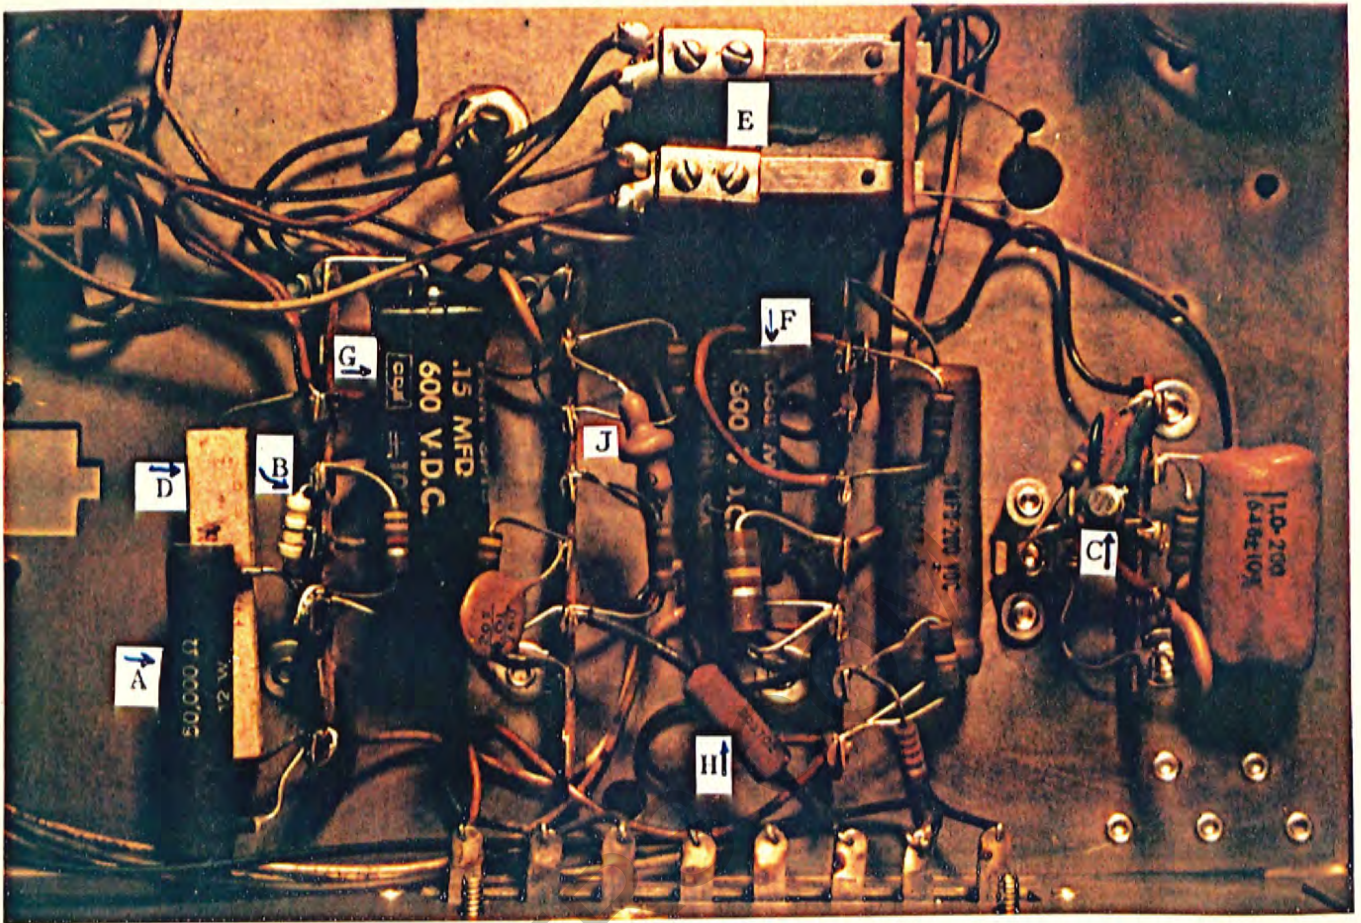

FIG 7 CLOSE-UP OF WRITE-IN/READ-OUT COMPONENTS
HARDLY CHANGES (IT MAY LOOK A LITTLE "PUFFED UP"), BUT IT'S READING WILL SHOW A RESISTANCE OF ONLY A FEW HUNDRED OHMS. THE FUSE WILL HAVE BLOWN SEVERAL TIMES DURING THE TIME IT TAKES FOR ALL THIS TO HAPPEN. SINCE THERE IS NO "OBVIOUS" CAUSE FOR THE FUSE FAILURE, PEOPLE HAVE A TENDENCY TO REPLACE IT WITH A HIGHER RATED ONE (I HAVE SEEN 15A FUSES USED). THIS ACCELERATES THE "AGEING" PROCESS OF THE ABOVE RESISTORS AND DOES NOT CURE ANYTHING; IT WILL HOWEVER RESULT IN THE SHORTING OF THE RECTIFIER DIODES AND/OR BURN-OUT OF THE MAIN POWER TRANSFORMER. THE REAL CURE IS TO REPLACE RESISTOR R3107 WITH ONE THAT IS RATED AT 56000 OHMS, 5 WATTS OR HIGHER. (THE 50000 OHM, 12 WATT RESISTOR IN FIG. 7 IS A BARELY ACCEPTABLE SUBSTITUTE). R3109 (36OHM 1/2 WATT) CAN BE REPLACED WITH EITHER A 39 OHM OR 33 OHM RESISTOR (EACH 1/2 WATT). CHECK RESISTOR R3107 WITH AN OHMMETER IF YOU FIND THE FUSE (F3102) BLOWN.
- A. THIS AREA IS A DUPLICATE (ELECTRONICALLY SPEAKING) OF FIG 7, SHOWN CLOSE-UP IN FIG 10